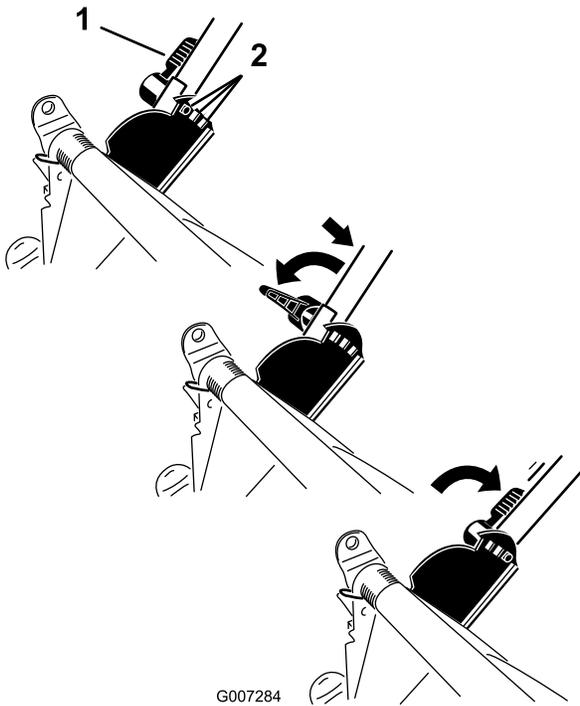

**Figure 12**
**Note:** To raise the mower, move all 4 cutting height levers forward; to lower the mower, move them all rearward (Figure 12).